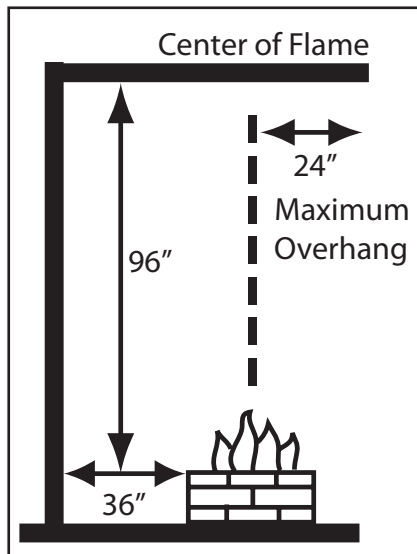

Fig. 2 Clearance to Combustibles (Not to be used in an enclosed space)
WARNING: Proper clearances from combustible, construction and materials must be maintained from all sides, top and bottom of this appliance. This appliance should never be placed on any combustible surface. This appliance should never be placed under any combustibles closer than 96-inches. This appliance should never be placed closer than 36-inches from any side to any combustible construction or materials (See fig. 2, pg. 3).
6. Linear Outdoor Fire pits create high temperatures, it is very important to have any combustibles at a safe distance (See Fig. 2 page 4).